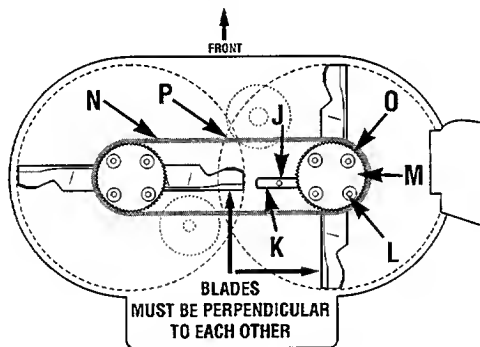

Figure 5-6: Blade Spindle Belt.
3. Align sight holes (O, Figure 5-6) in pulley with spindle housing-to-mower deck mounting bolts (L).
4. Loosen screw (J) and rotate arm (K) to the rear.
5. Loosen four mounting bolts (L) securing spindle housing (beneath mower deck) to mower deck.